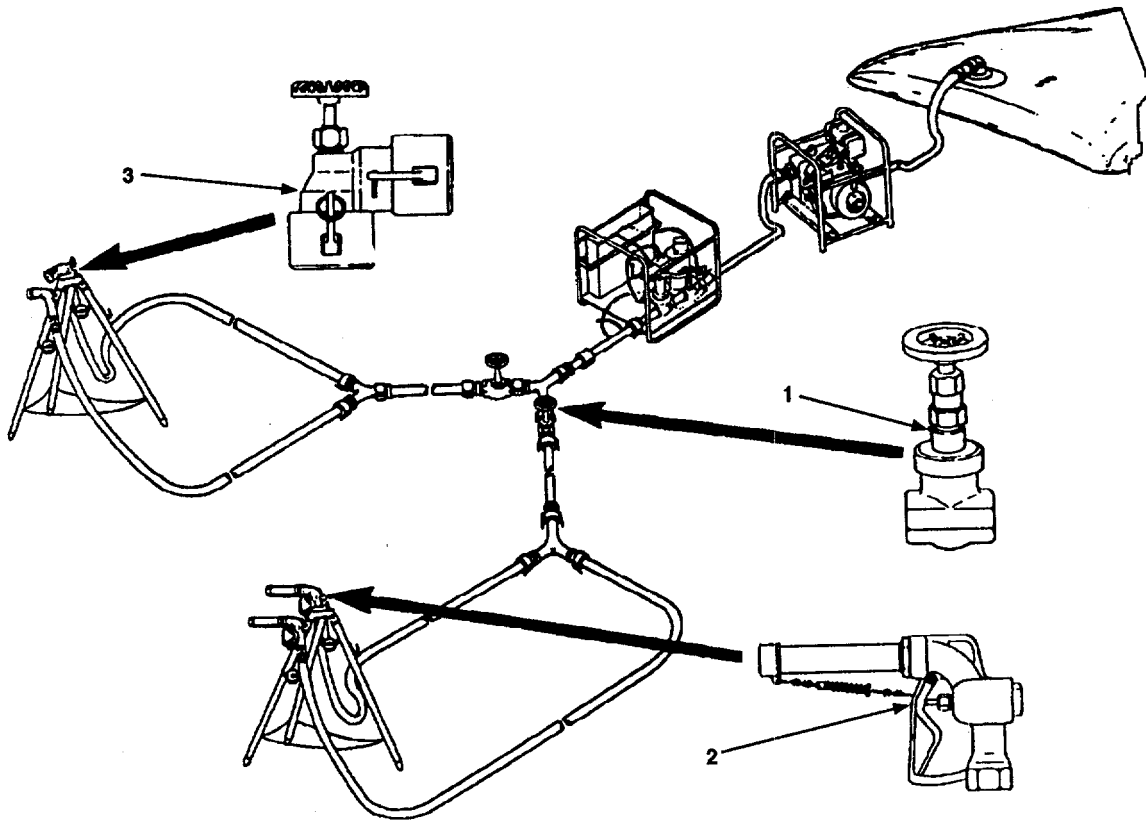

Figure 2-5. Operator's Controls and Indicators for TWDS Distribution Point.
2.1.5 **TWDS Distribution Point.** See figure 2-5 and table 2-5.